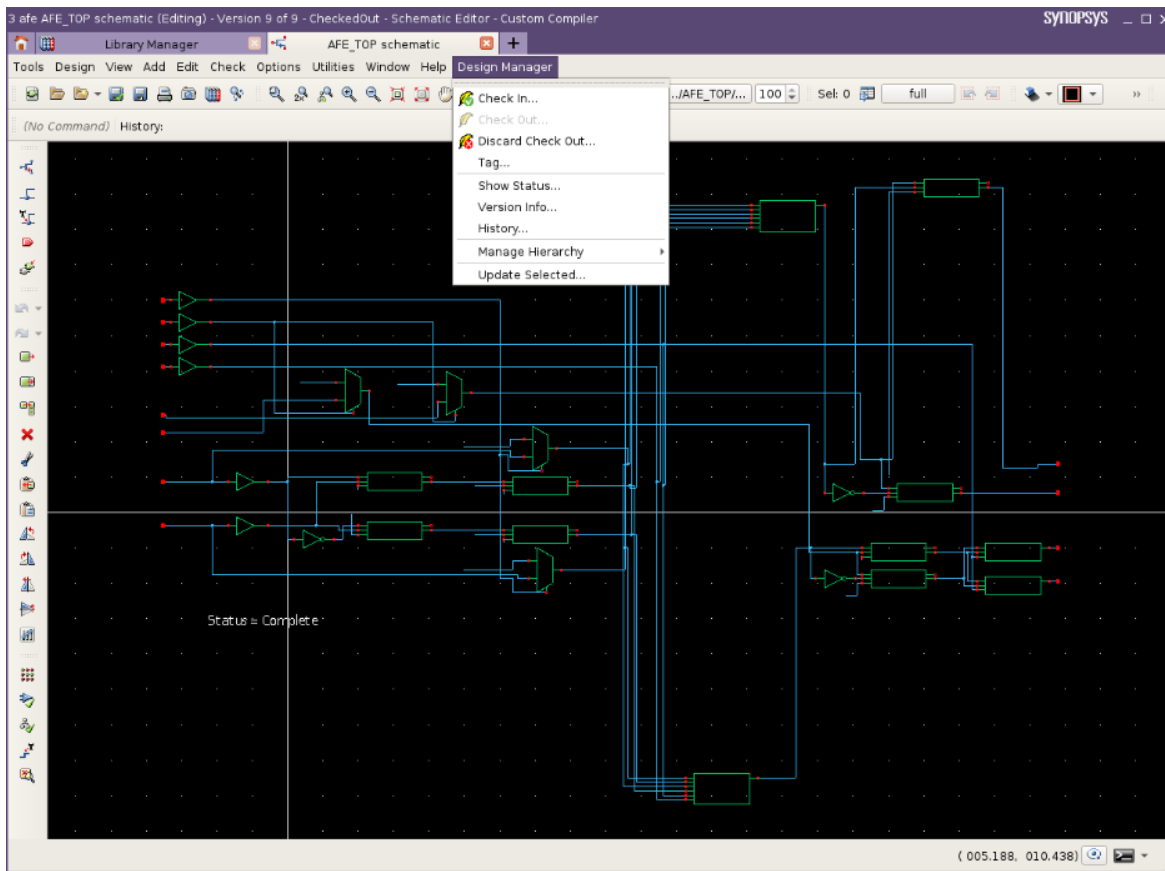

Figure 4. Quick access to common data management operations directly within the editor
Step 2: Edit the cellview and save changes. The designer works normally in the Custom Compiler schematic or layout editor, saving changes to disk periodically [figure 4]. All saves are local to the designer’s workarea and do not affect other users.